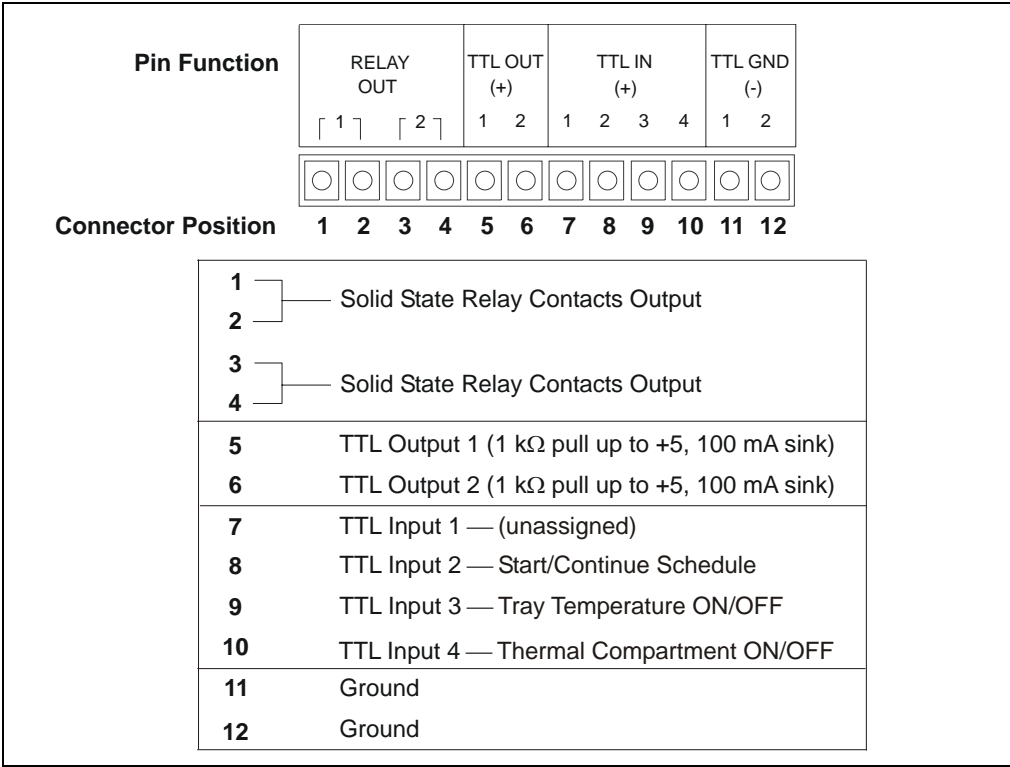

Figure D-1. TTL and Relay Connector on Rear Panel
A 12-pin connector strip for TTL/relay control is located on the AS50 rear panel. The connector provides two relay outputs, two TTL outputs, and four TTL inputs (see Figure D-1).
- a. For each relay or TTL to be used, connect an active wire (red) and a ground wire (black) to the 12-position connector plug at the appropriate pin locations. Refer to Figure D-1 or the label on the AS50 rear panel for the connector pin assignments.